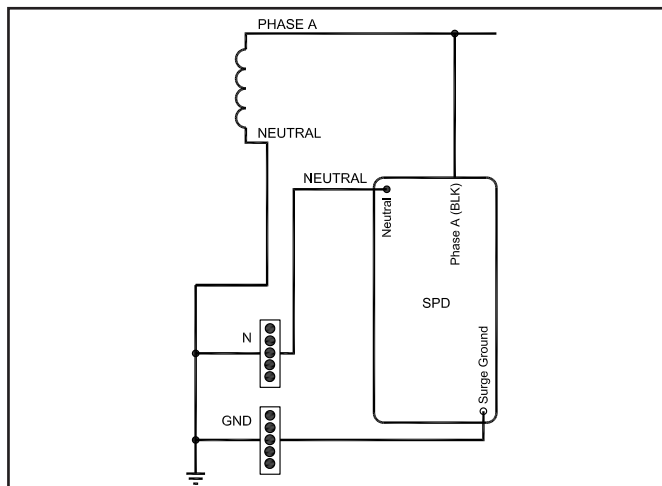
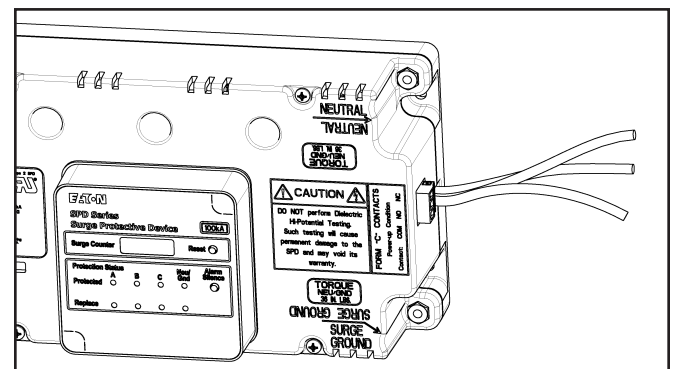

Figure 6. Wiring - Single Phase Units (230 L)
Figure 14. Phase Connections
6. Select the correct wiring diagram for the SPD you are installing. You must refer to this diagram while wiring the SPD. See Figures 6, 7, 8, and 9, on page 4.
- Connect Phase wire to circuit breaker. NEC requires that conductors to a surge device be protected by an overcurrent protection device. The cables on the SPD are #10 AWG, therefore would require a 30A 3-pole breaker. See Figure 14, and the wiring diagrams shown in Figures 6, 7, 8 and 9.
8. The SPD (Standard and Standard with Surge Counter models) also has a connection available for remote monitoring of the Form C relay contacts. See Figure 14. This is a green connector located on the side of the SPD. To make the connection, remove the green connector and install the remote monitor leads (connector supports 12-24 AWG wire). Fasten the remote monitoring wires to the N.O., N.C. and COM connection points per the label on the front of the SPD. Contacts are rated: 150 Vac or 125 Vdc at 1A. Follow all national, state and local electrical codes. With wiring complete, plug the green connector into the SPD.